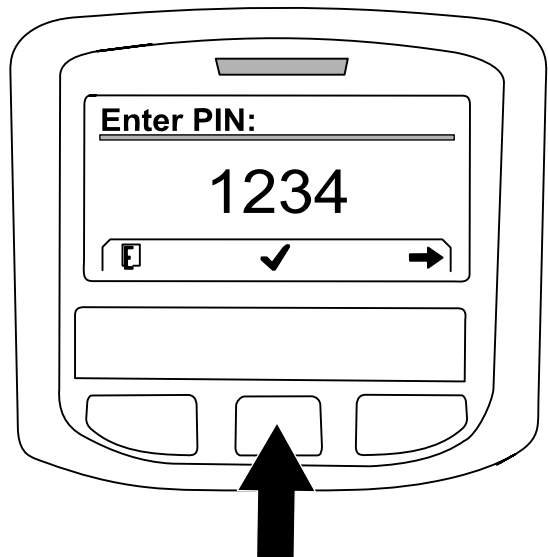
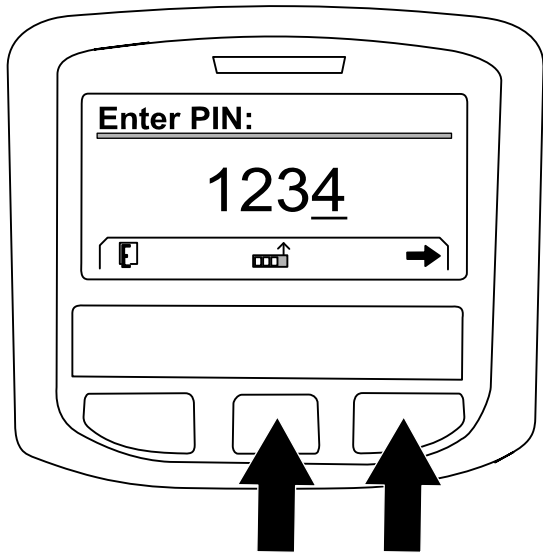

Figure 267
Figure 266
- A. Press the center button as needed to enter the PIN code number for the left position (Figure 266).
- B. Press the right button to navigate to the next PIN code number position (Figure 266).
- D. When all the PIN code numbers are entered press the right button (Figure 266) and then press the center button to enter the PIN code (Figure 267).